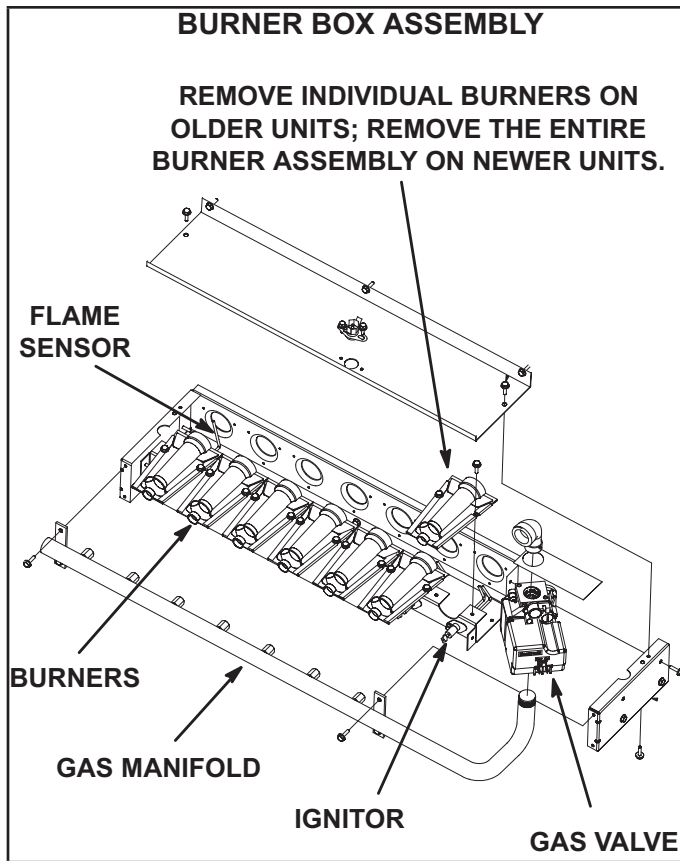

FIGURE 32
- 4 - Remove screws securing burners to burner support and lift the individual burners or the entire burner assembly from the orifices. See FIGURE 32. Clean as necessary.
- 6 - Replace burners and screws securing burner. See FIGURE 32.